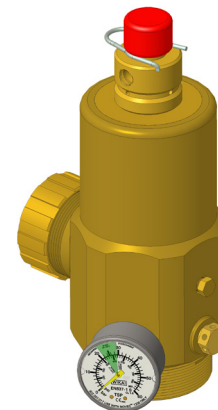

FIGURE 6-34
3. Carefully screw the actuator to the top of the electrical actuator or directly onto the master container valve. See Figure 6-34.